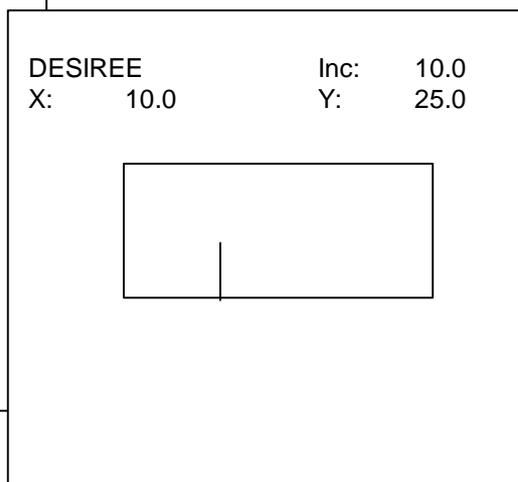

Figure 19: Selecting “X” coordinate
- Select *Change X* and use ? to open the following menu (Figure 19).
- ? moves the cursor in Figure 19 to the “X increment” in the upper right-hand corner.
- ? confirming the new value in *Enter Number Menu* will take you back to the menu in Figure 19.